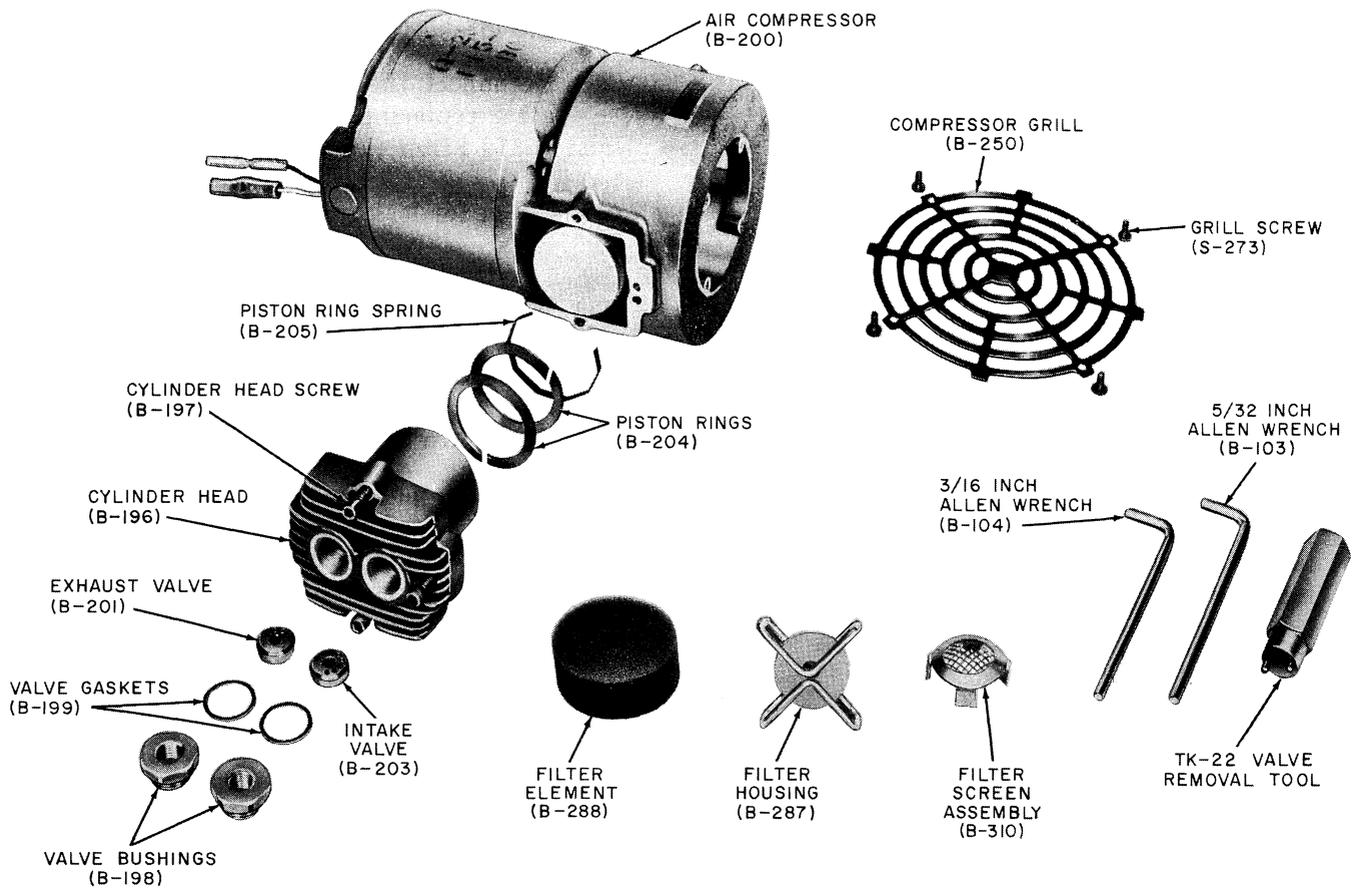

Fig. 1 — B-200 Air Compressor — D Air Dryer
- (b) 2.04 (5) — revised
- (c) 2.04 (6) — added
- (d) Fig. 1 — revised
- (e) 2.08 (21) — revised
- (1) Disconnect the alarm plug at the dryer to prevent false operation.
- (2) Drain the water from the condensate receiver (2.05).
- (3) Replace the silica gel in the main gel tower (2.07).
- (4) *Annually* replace the air compressor piston rings, ring spring, valve gaskets, and intake exhaust valve (2.08).
- Γ (5) On dryers modified by the addition of the B-310 Filter Screen Assembly (Fig. 1), brush the screen and wipe with a clean dry cloth. Place a new B-288 Filter Element in the filter housing (2.08).
- (6) If the filter housing has not been modified by the addition of the B-310 Filter Screen Assembly, convert the housing per instructions in filter screen package and reconnect filter assembly (2.08). (The formed wire filter screen improves air flow distribution through the B-286 Filter and prevents holes from forming in the filter element.)
- L (7) Check the operation of the humidity alarm (2.10).
- (8) Observe that the heat exchanger temperature (2.11) and pressure (2.12 through 2.15) are cycling within proper limits.
- (9) Check the output air pressure of the pressure testing valve on the regulator and adjust if necessary (2.16).
- (10) Check for leakage within the dryer with the 5-minute test described in 2.09.
- (11) Reconnect the alarm plug when all work has been completed.
2.08 The B-200 Air Compressor (Fig. 1) requires no lubrication. However, at *annual* intervals replace the piston rings, ring spring, valve gaskets, and intake and exhaust valves as follows: